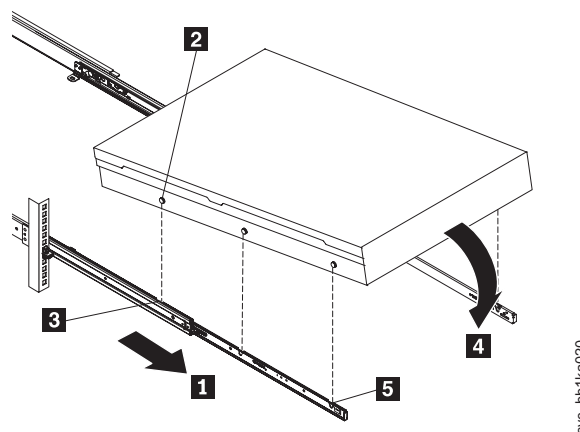

Figure 36. Installing the 2145-CG8 or 2145-CF8 node in the slide rails of the rack
- a. Pull the slide rails forward ( **1** in Figure 36) until they click twice into place.